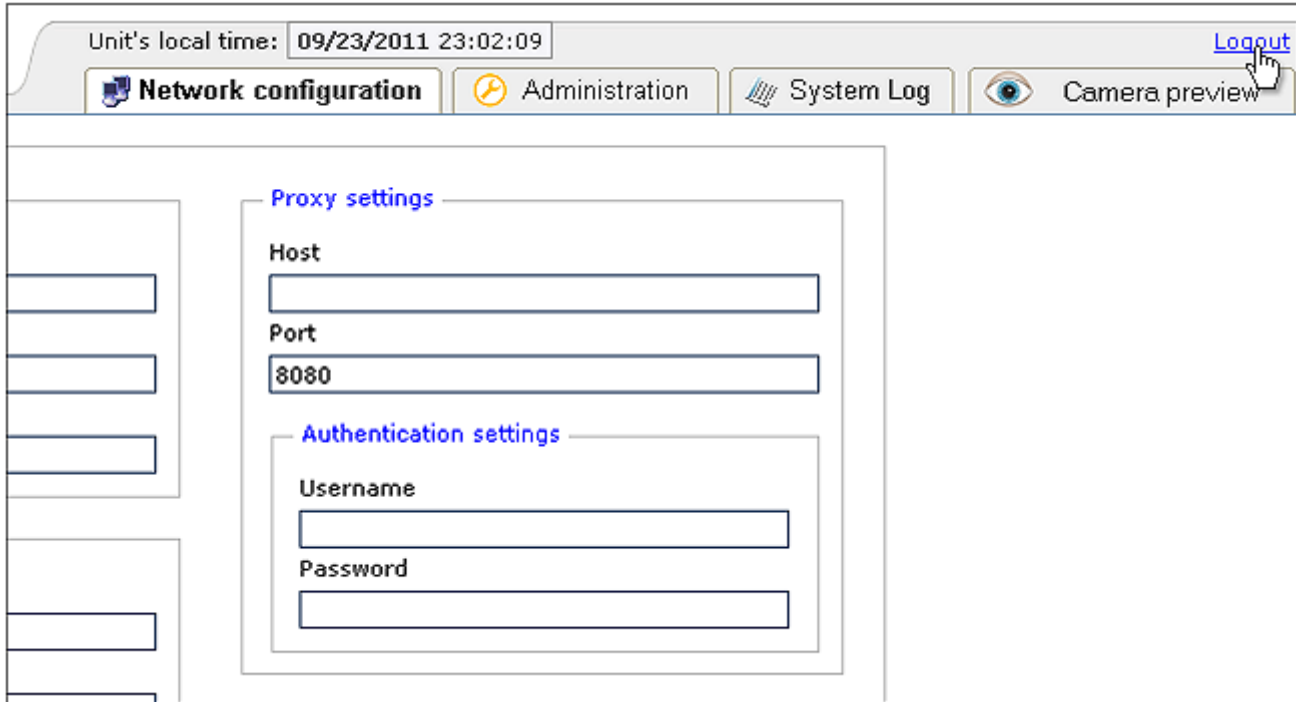

Figure 18: "Logout" link.
3. To logout from the Measuring Device use the “Logout” link in the upper-right corner of the screen (Figure 18). Automatic logoff starts in 30 minutes if no action with Measuring Device WebUI performed.